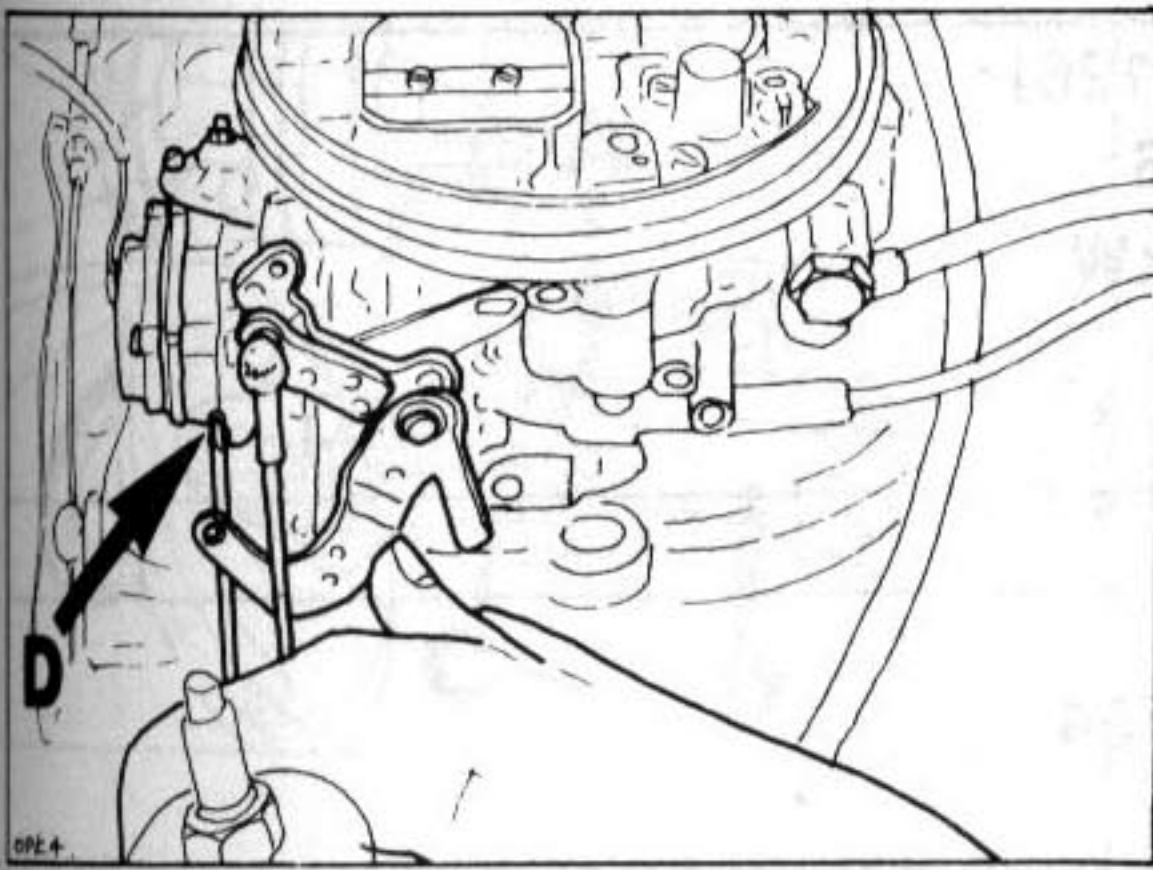

Fig. 4 Fast idle adjustment
- (Fig. 4). Clockwise: to raise, anti-clockwise: to lower fast idle speed.